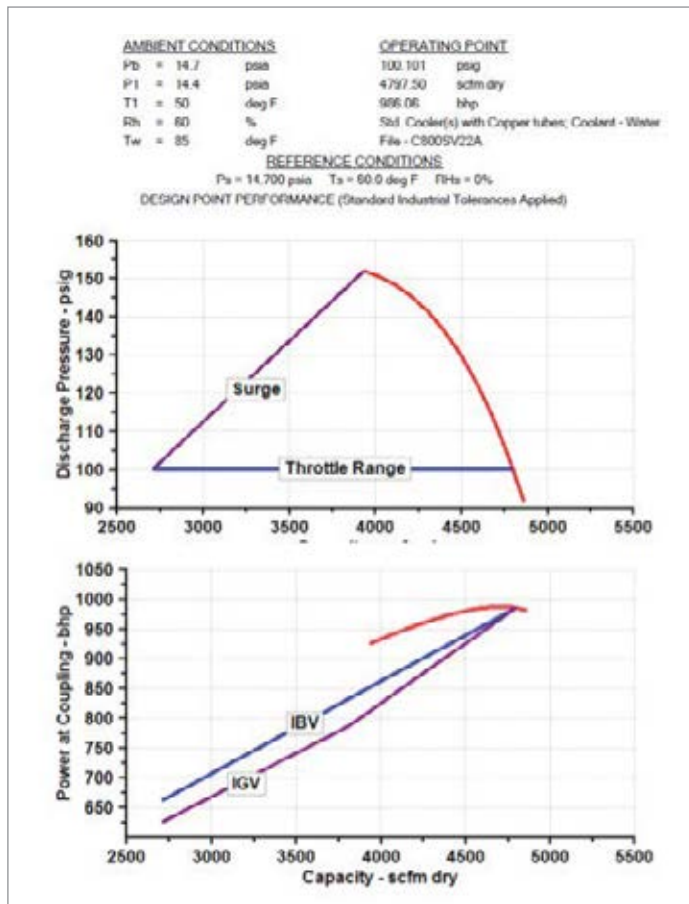

Figure 4. Typical Multi-Stage Plant Air Centrifugal Air Compressor Curve, 50°F inlet.
Centrifugal air compressor delivered flow, or “capacity”, is dependent on inlet density. If the density drops due to higher inlet temperature, the volume flow actually reduces. The lower mass flow reduces the ability of the first stage impeller to develop velocity through momentum, and the inlet volume flow (in icfm or m3/hr) drops. This is in contrast to positive displacement air compressors, where inlet volume flow is not affected by inlet density. Delivered mass flow, related to standard conditions, (scfm or nm3/hr), always drops linearly with inlet density, even if inlet volume was constant. Thus, inlet density reduction from elevated inlet temperature creates a “double jeopardy” for centrifugal air compressors, dropping both icfm and scfm. Figures 4 and 5, actual curves of an identical air compressor at 50 and 90°F inlet, show this. The ratio of delivered flow is  $1 - 4342/4798 = 9.5\%$ . If the inlet flow was constant, the drop would only
2. As capacity is reduced at constant pressure, the air compressor gets close to its minimum throttle point, called the “*surge control line*”, as shown in Figure 4. As the compressor gets close to the surge line, current is dropping and polytropic head